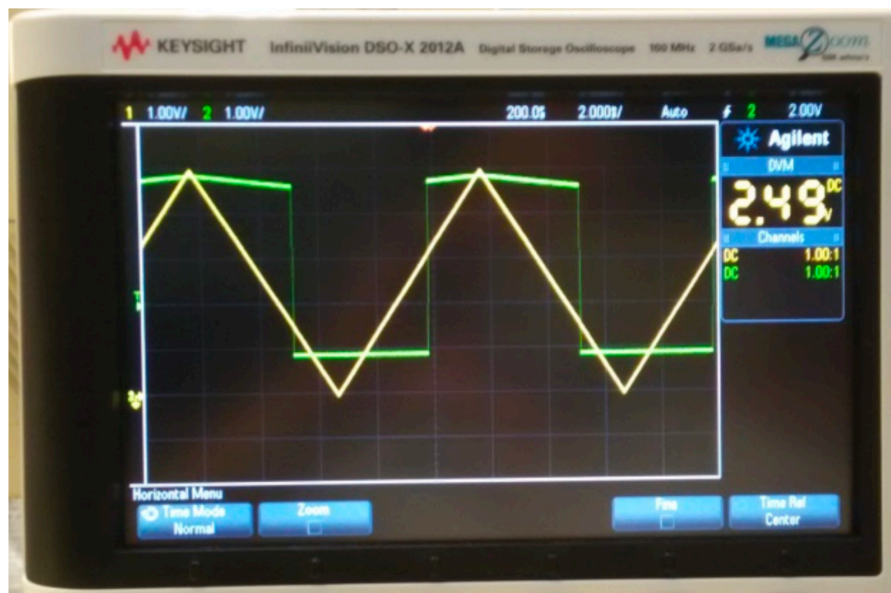

Figure 7: Waveforms of input(X) and input(Y).
- 4) **Connect channel 1 input (X)** of the oscilloscope to the **output** of non-inverting Schmitt trigger and connect **channel 2 input (Y)** of the oscilloscope to the **output** of non-inverting Schmitt trigger. The waveform displayed on the oscilloscope should be similar to Figure 7.